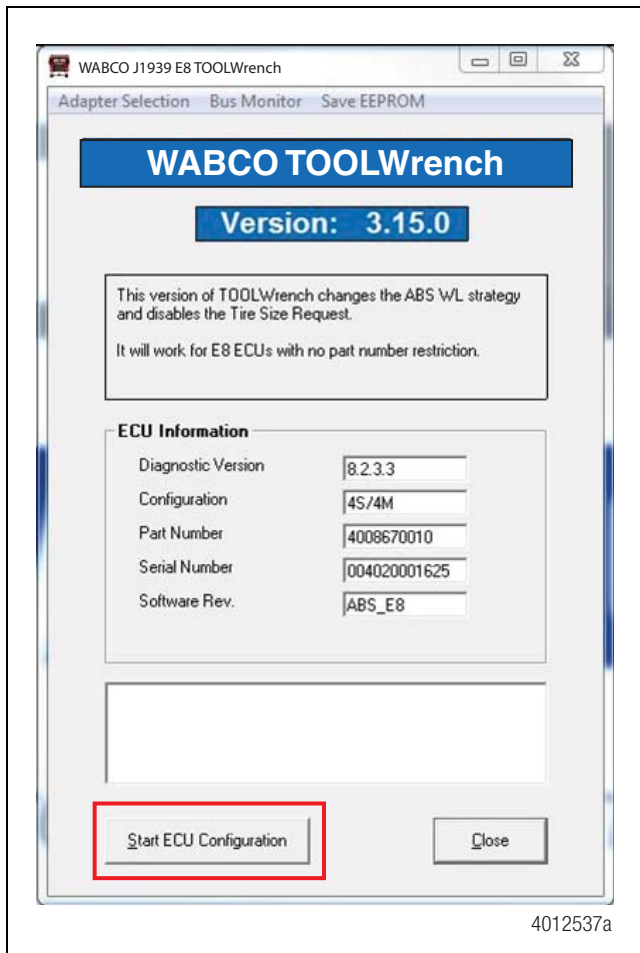

Figure 6
10. Click on the “Start ECU Configuration” button. Figure 6.